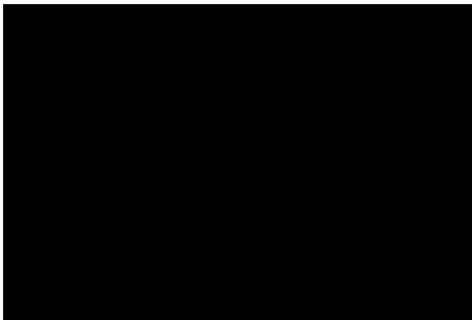

Figure 4.
- Move rail and other equipment required for installation from stock area to roof using by crane., as shown in figure 4.